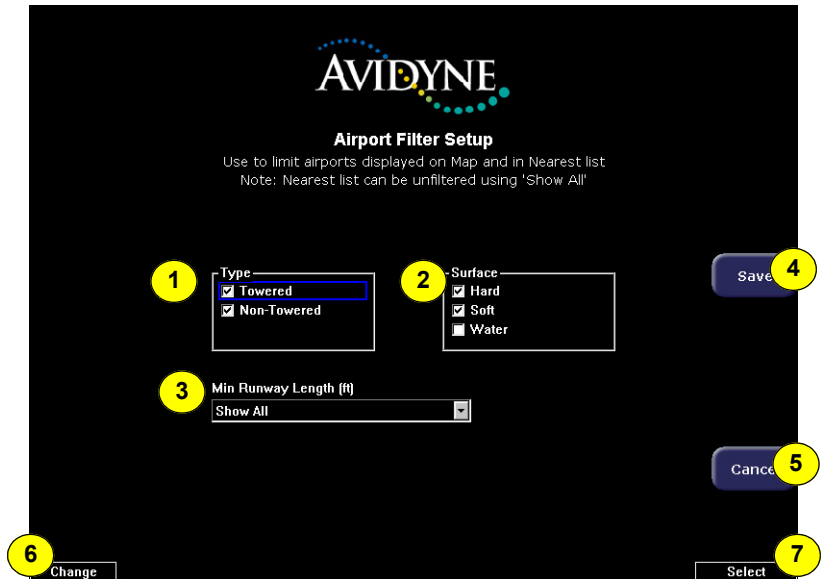

Figure 8.2 Airport Filter Setup Page
- 5) **FILTER**—Press to see all airport types (SHOW ALL) or only the airport types as defined on the Airport Filter Page (ON) (see Section Figure 8.2, "Airport Filter Setup Page" on page 63). *Filter* is only visible on the Nearest Airport Pages.